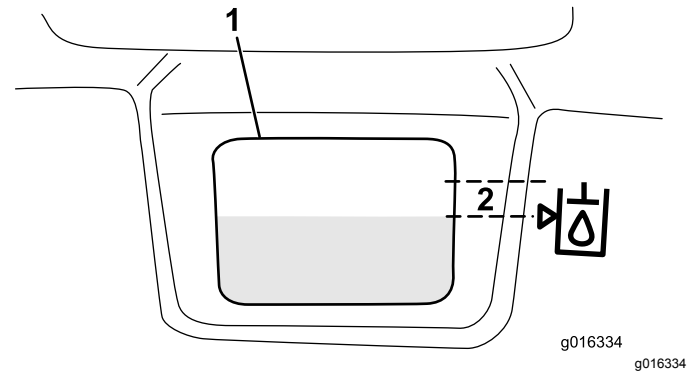

Figure 33
3. Slowly fill the reservoir with the appropriate hydraulic fluid until the level is at or within 6 mm (0.25 inch) of the arrow in the symbol next to the white window in the front of the reservoir (Figure 33). Do not overfill.